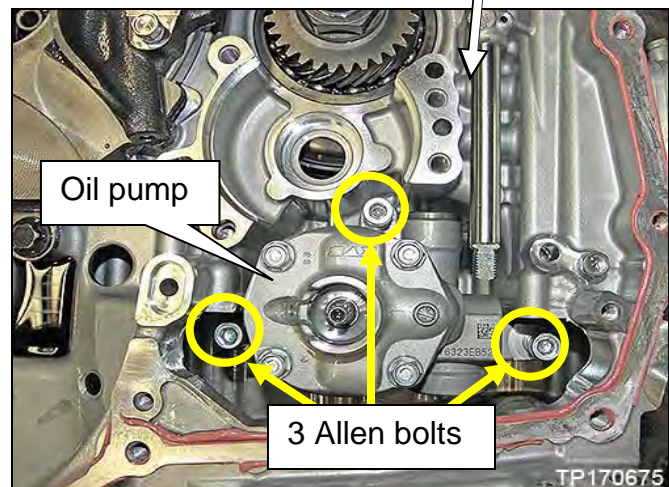

Figure 23H
24. Remove the three (3) Allen bolts shown in Figure 23H and then remove the oil pump from the CVT case.